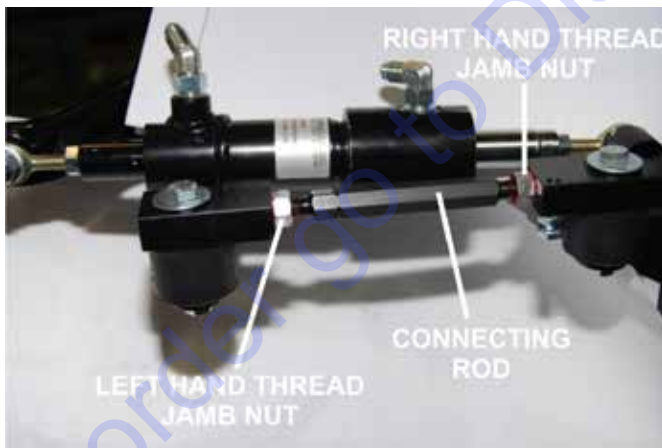

Figure 33. Adjusting Right Side Trowel Speed
- Adjust trowel arm connecting rod on the pump actuating lever and tighten jamb nuts (Figure 33).